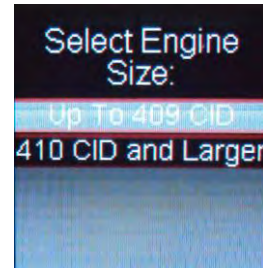

Figure 7
8. If your engine is up to 409 cubic inches, select "Up To 409 CID". If your engine is larger than 409 cubic inches, select "410 CID and Larger" (Fig 7).